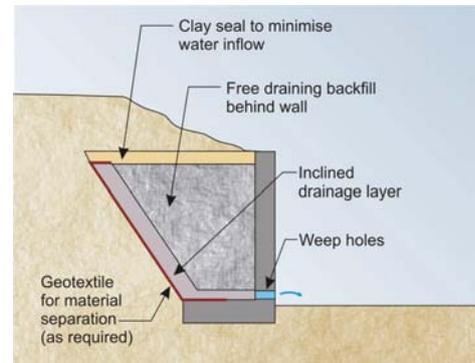

Figure 1- Typical formed concrete wall
**Formed concrete and reinforced blockwork walls** (Figure 1) - should be built so the backfill can drain. They should be inspected at least once a year. Look for signs of tilting, bulging, cracking, or a drop in ground level on the high side, as any of these may indicate that the wall has started to fail. Look for rust staining, which may indicate that the steel reinforcement is deteriorating and the wall is losing structural strength ("concrete cancer"). Ensure that weep holes are clear and that water is able to drain at all times, as high water pressures behind the wall can lead to sudden and catastrophic failure.